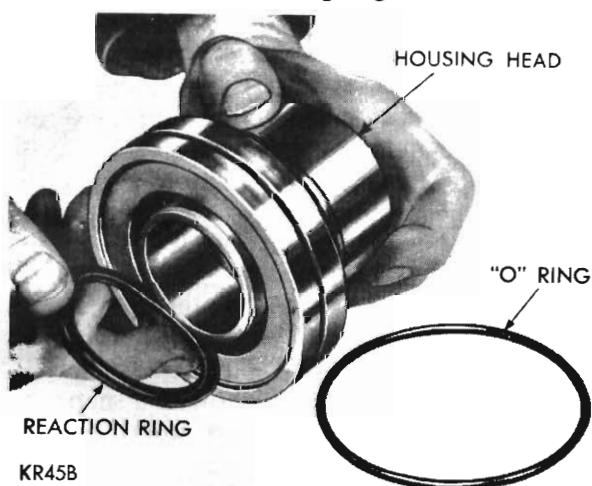

Fig. 21 - Installing reaction seal ring in wormshaft support
(40) Install the worm balancing ring (without flange) inside the upper reaction ring.
(41) Lubricate the ferrule 'O' ring with petrolatum and install it in the groove on the cylinder head ferrule.
(42) Lubricate and install the reaction seal ring in the groove in the face of the housing head with the groove side of the seal out (Fig. 21). Install the 'O' ring in the groove on the housing head.